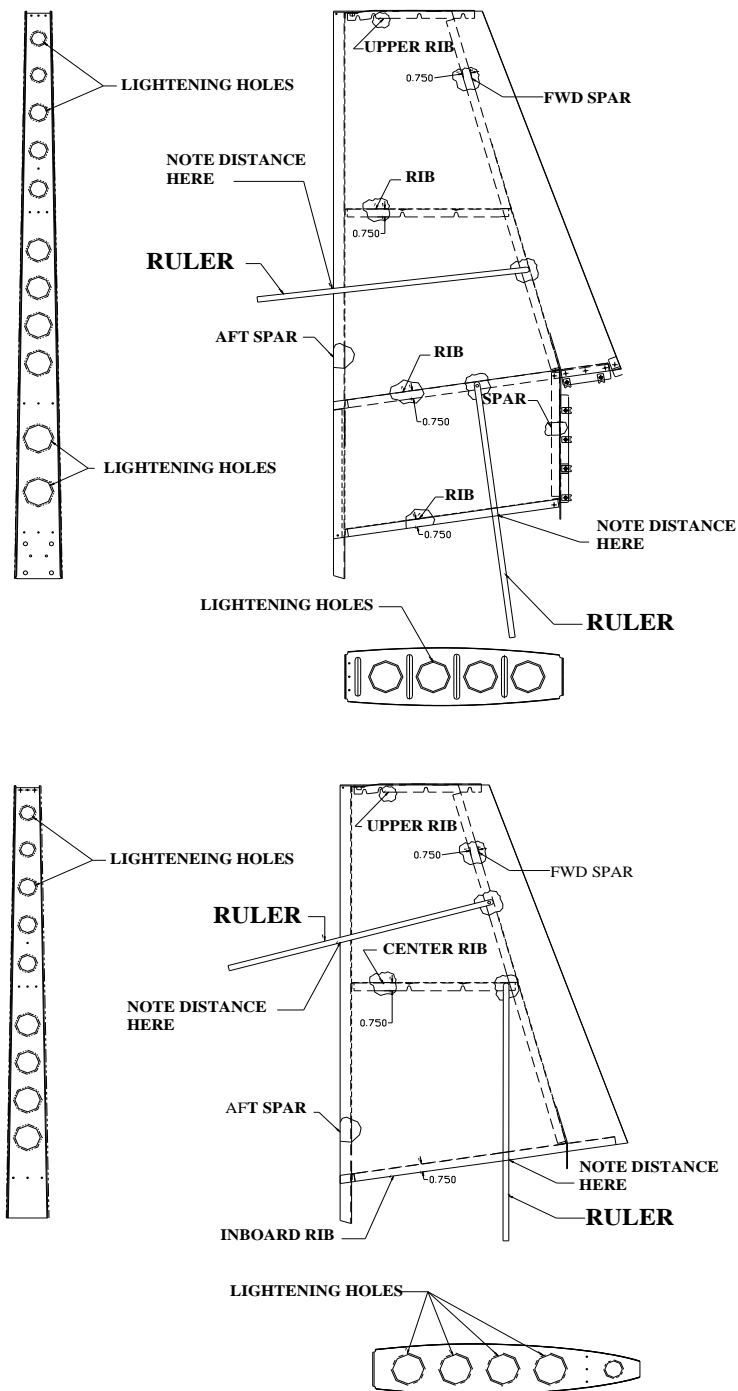

**FIGURE 3
1. Inspect all bondlines of the horizontal stabilizers as called out in A, 1-4 above (FIGURE 3) with emphasis on the outboard rib at the outboard elevator bearing support assembly (FIGURE 4).
- i. To locate the forward spar flange, insert a ruler into a lightening hole in the rear spar of the stabilizer until it contacts the forward spar web. Make sure the end of the ruler is resting solidly against the spar web and not on a spar lightening hole flange and, as close to perpendicular to the spar as possible. Note the distance from the stabilizer trailing edge to the spar web. Remove the ruler and on the outer surface of the stabilizer (at the same location), measure that distance from the stabilizer trailing edge forward and mark the location of the spar web. Repeat this process as necessary along the spar to establish a line indicating the forward spar flange location. Mark rivet lines in accordance with SK-125B Figure 3.
- ii. To locate the stabilizer center rib flange, insert a ruler into a lightening hole in the inboard end of the stabilizer until it contacts the forward rib. Make sure the end of the ruler is resting solidly against the rib web and not on a lightening hole flange and, as close to perpendicular to the rib as possible. Note the distance from the stabilizer inboard edge to the rib web. Remove the ruler and on the outer surface of the stabilizer (at the same location), measure that distance from the stabilizer inboard edge outward and mark the location of the rib web. Repeat this process as necessary along the rib to establish a line indicating the center rib inboard flange location. Mark rivet lines in accordance with SK-125B Figure 3.
3. Inspect the interior of the horizontal stabilizers for corrosion. If only light surface corrosion (white ash appearance) is found, proceed to step (4). If major corrosion (blisters, flaking, cracks or holes in the metal) is found, make repairs as required in accordance with the maintenance manual Chapter 20 or install a replacement, serviceable part then proceed to step (4).